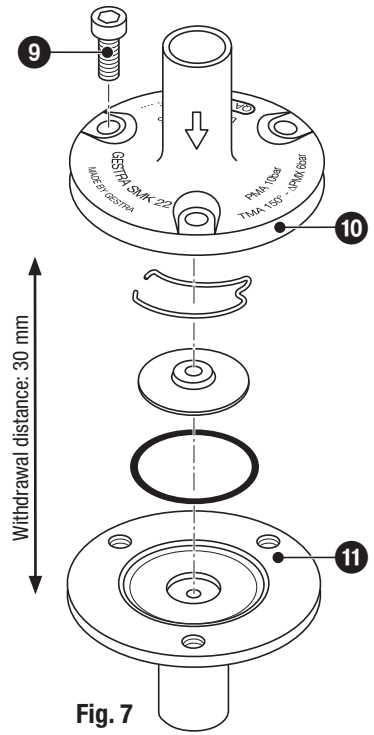

Fig. 7
2. Unscrew socket-head cap screws **9**. **Fig. 7**